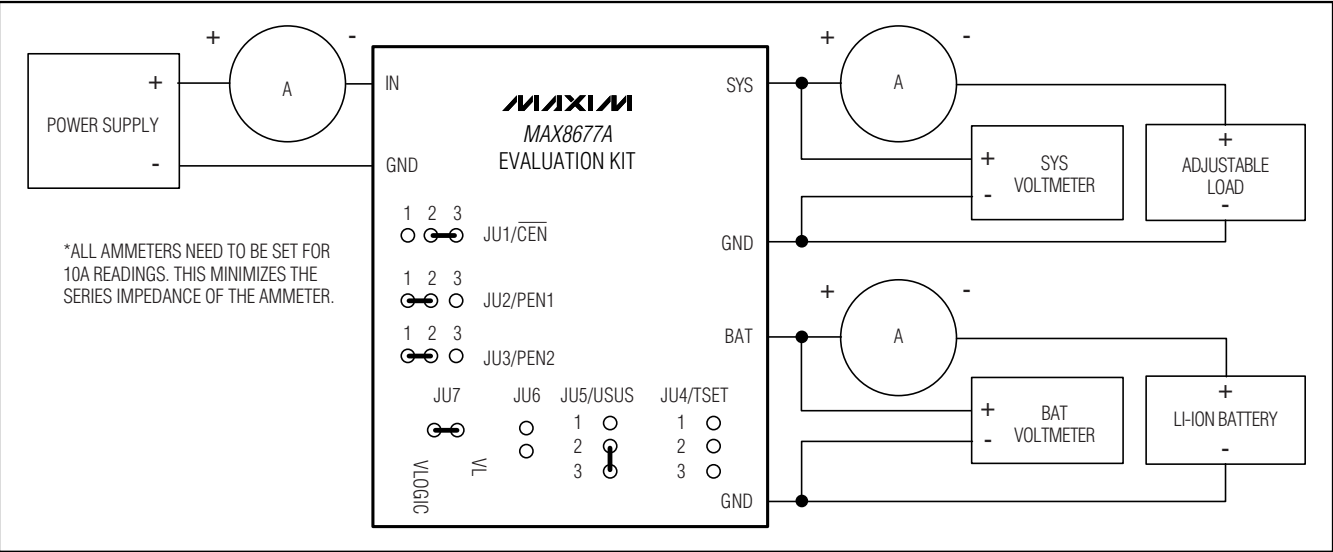

Figure 1. Test Procedure Setup
- Connect the EV kit to the power supply, battery, adjustable load, and meter, as shown in Figure 1.
- Ensure that the EV kit has jumper settings configured as shown in Table 1, and also shown in Figure 1.